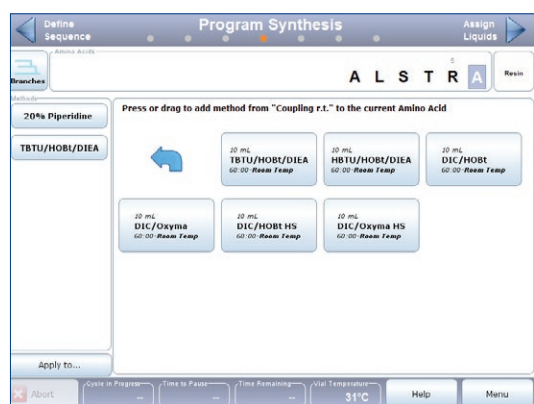

Figure 7. The Program Synthesis view in the synthesis wizard.
- Press **►**. This opens the **Program Synthesis** view where you define the methods for the current synthesis; see Figure 7. The system is delivered with a set of predefined methods. Custom folders and methods will also appear as options in the **Program Synthesis** view. Only methods relevant to the selected vial size are displayed.